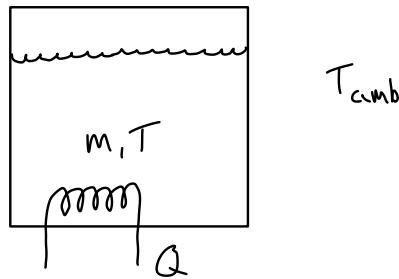

Figure 3: A liquid vessel with a heater.
- Q8) A liquid vessel is heated by a heating rate  $Q(t)$  (see Fig. 3). During the heating process, heat is also transferred from the vessel to the surrounding air, characterized by the heat transfer coefficient  $h$  (unit:  $\text{W}/(\text{m}^2 \text{ }^\circ\text{C})$ ). The temperature distribution inside the vessel is assumed to be uniform. A physics-based model for the liquid temperature  $T(t)$  is